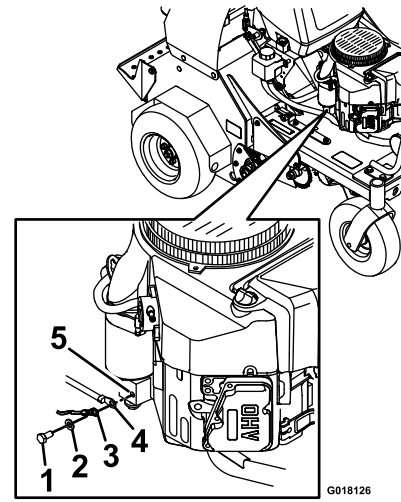

Figure 4
5. Remove the screw, washer, and ground cable from the engine. Connect the negative battery cable as shown in Figure 4.